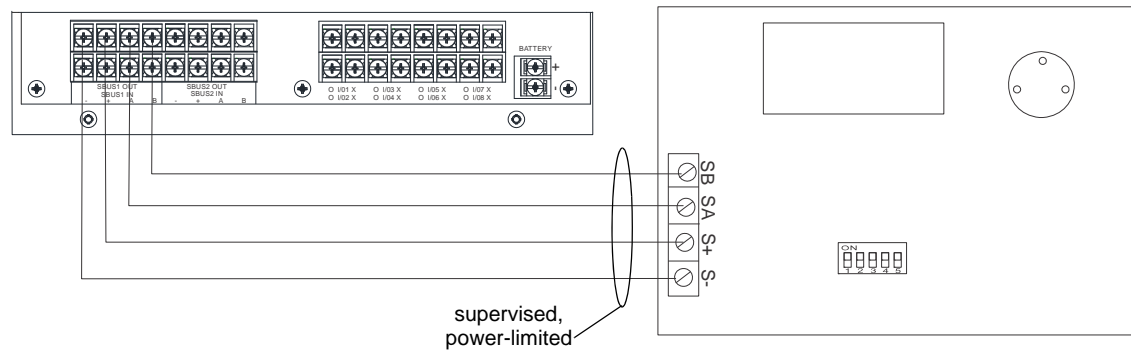

**Figure 4.17 Flush Mounting the Backbox**
3. Fit the annunciator backbox into the hole and stabilize with mounting wires. Angle the mounting wires into the first hole past the sheet rock. Secure the wires behind the screws as shown in Figure 4.17. When all four wires are in place, the backbox should fit snugly into the hole in the sheetrock.